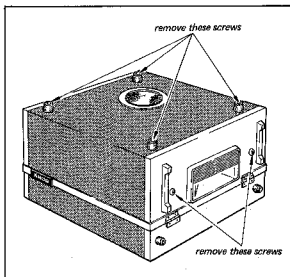

Fig. 3-1. Cabinet removal
1. Turn the VTR (with cabinet lid) upside down on a padded bench as shown in Fig. 3-1.